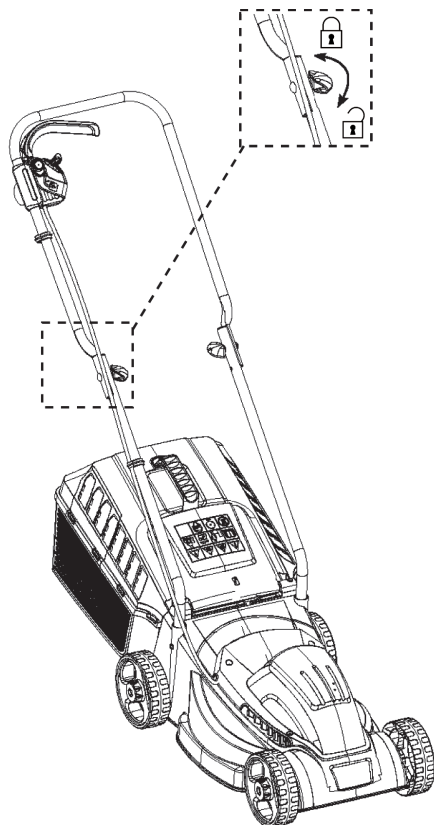

Fig. 11
1. Disconnect the plug from the extension cord and loosen the knobs (3b) anti-clockwise to fold the handle assembly for storage (Figs. 11, 12).
2. Ensure the power cord (13) is not squeezed, and then tighten the knobs (3b) clockwise.